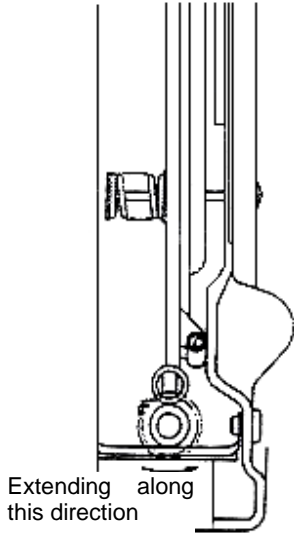

Fig. 2-16 Slack Self-adjuster
When braking is applied in reversing traveling, the auxiliary brake shoe will be in contact and rotate with the main brake shoe to make the pull rod rotate clockwise around point A, as shown in Fig. 2-13. At this moment, point B will be lifted. Once the brake is released, the pull rod will rotate anti-clockwise under the effect of spring force, and point B will be lowered. As the clearance between the friction lining and brake drum increases, the vertical distance of rotating point B increases. As the adjuster is shifted to position I, the adjusting rod becomes longer (see Fig. 2-16) and the clearance decreases. The adjusting range of clearance is 0.40mm~0.45mm.
- (1) Remove the support pin, adjusting rod, adjuster and spring from the auxiliary brake shoe. See Fig. 2-16.